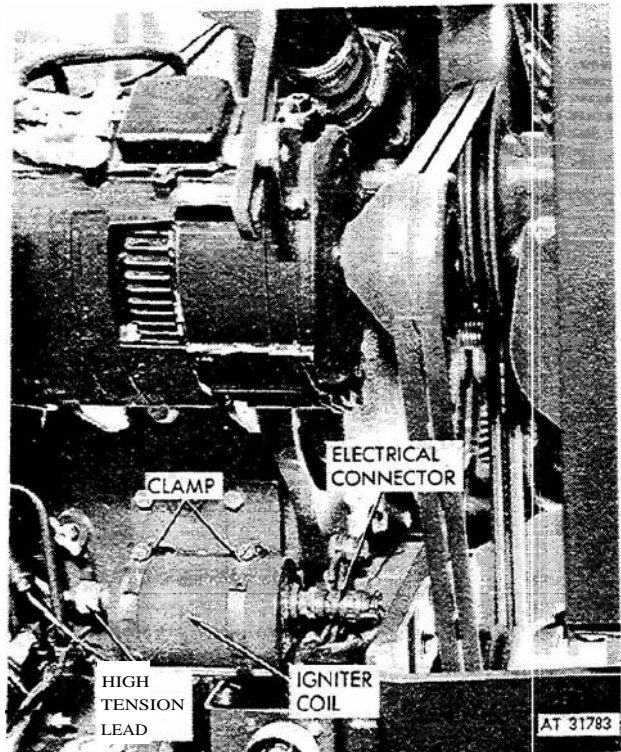

Figure 2-13. Igniter coil, removal and installation
(1) Open engine cover (refer to TM 9-2320-242-10).
(2) Unscrew and remove electrical connector (fig 2-13) and high tension lead from igniter coil.